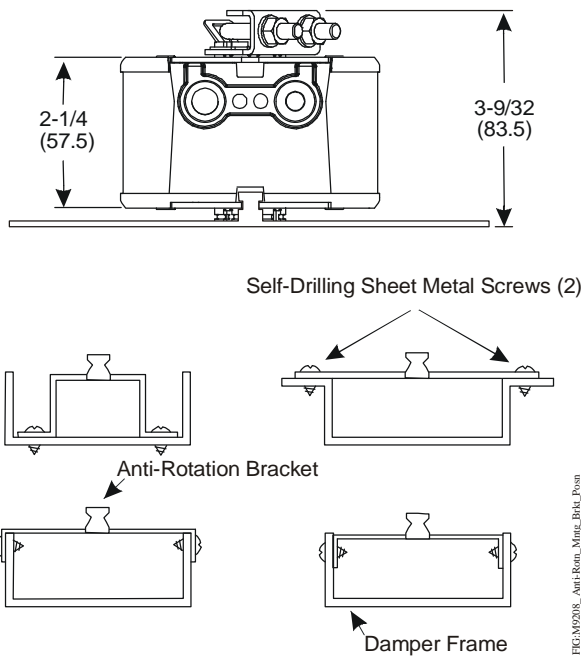

Figure 6: Anti-Rotation Mounting Bracket Positions
2. Bend or cut the anti-rotation bracket to fit the damper frame or duct as illustrated in Figure 6.
5. Slide the actuator onto the damper shaft, and position the anti-rotation bracket tab into the slot at the bottom of the actuator as illustrated in Figure 6.